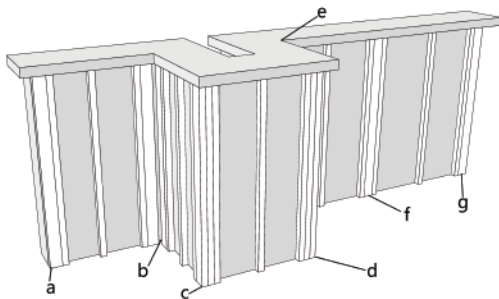

Fig1-2
1. Install the middle joist according to the joist center distance not more than 500 mm requirement. As shown in Figure 1-2: